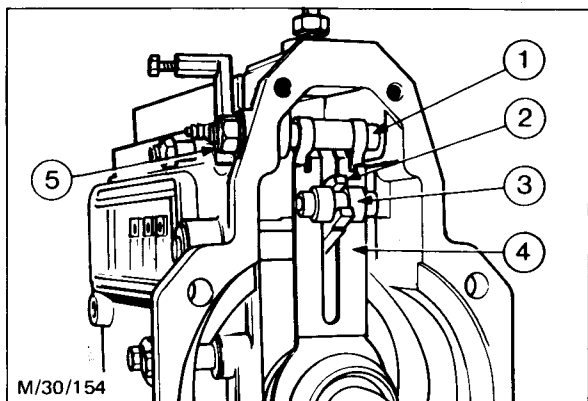

Fig. 33 - Governor Assembly (Dorset Shown)
30. Remove the dumb-bell shaped roller from the governor inner control lever (Fig. 33).